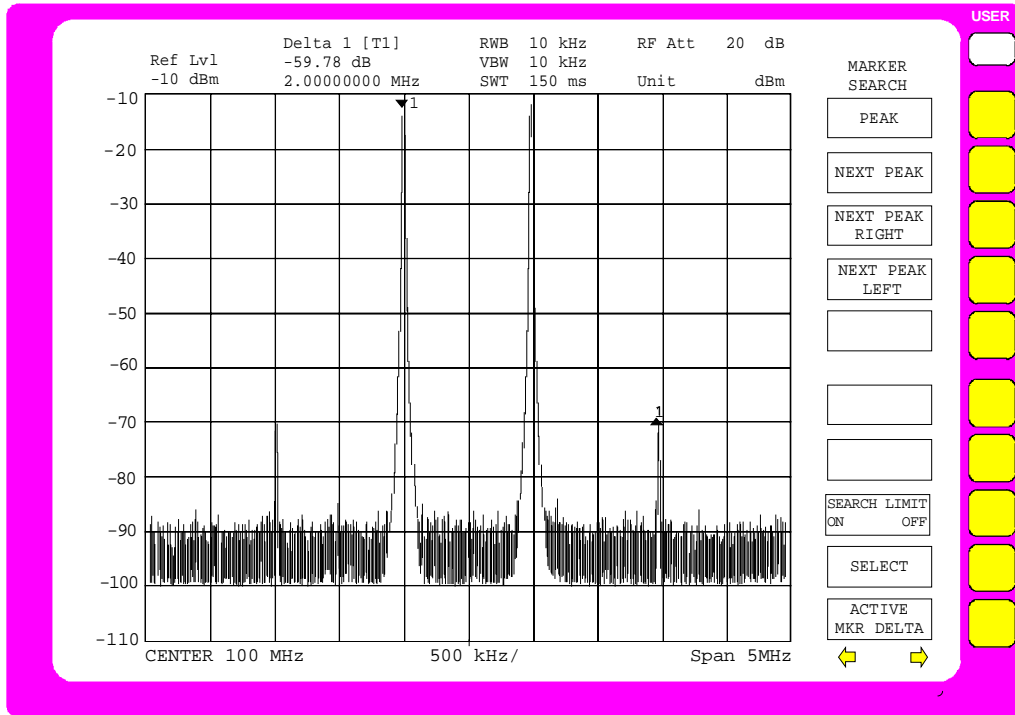

Fig.2-13 Measuring diagram in low distortion mode
The FSIQ shows the measuring diagram in Fig.2-13
If the amplitude of the IM products doesn't change, the existing setting is sufficient (see Fig.2-13)
- Move the marker to an intermodulation product using the roll-key (see Fig.2-13).
- Press the *NEXT PEAK RIGHT* softkey until the delta marker appears on one of the IM products (see Fig.2-13).
8. Calculate IP3 from the measured offset and the signal level according to (4)